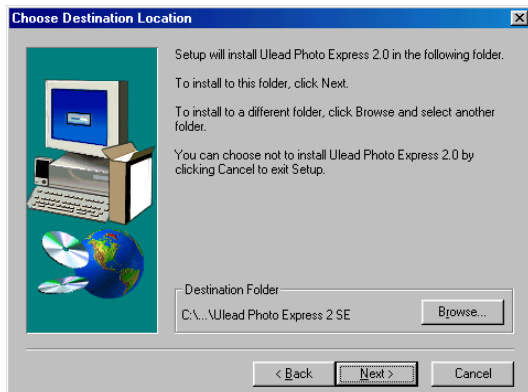

Figure 13: Installing PhotoExpress 2.0
8. Click on 'Next'. Figure 13.